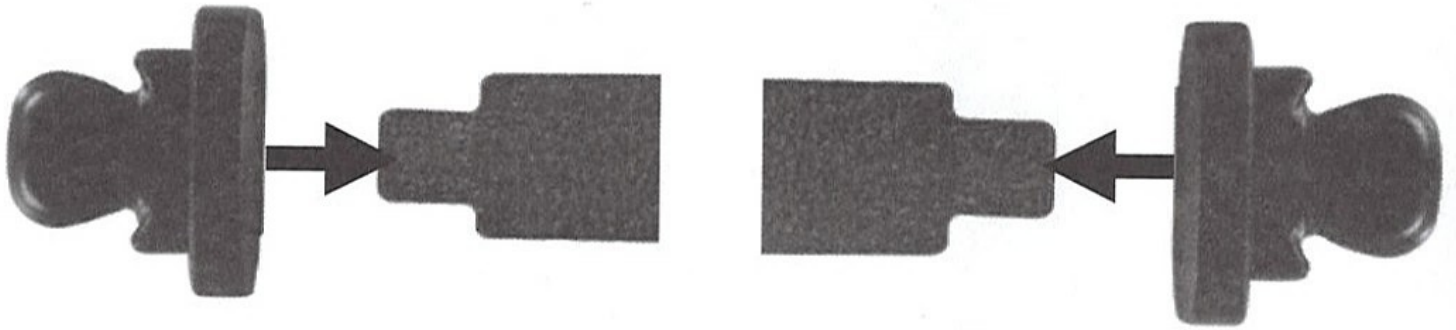

Fig.3
5. Attach plastic tips on end of the limbs, pressing firmly to ensure both tips are firmly seated. (Fig.3). Tap on a solid surface to seat all the way onto the limb.